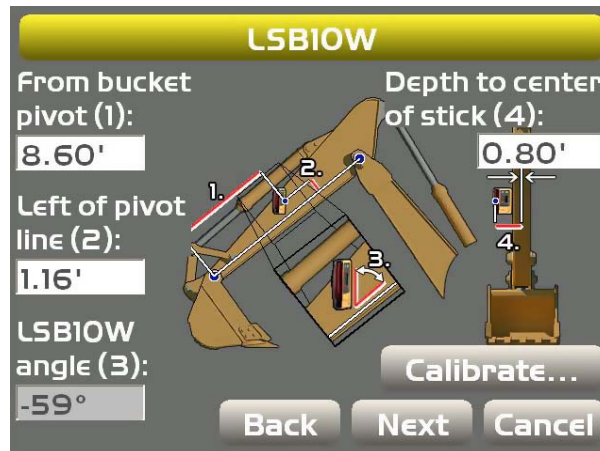

Figure 58: LS-B10W Laser Receiver Measurements
2. After assembling the bracket, clean the painted surface of the machine's stick in the area where the bracket will be mounted. Remove the backing from the double-sided tape and mount the bracket onto the stick orientation as shown in Figure 58 on page 43.
4. Enter the following measurements for the LS-B10W (Figure 58).
- **From bucket pivot** – enter the measurement for the distance from the along the projected line between the bucket pivot and stick pivot at the point where the LS-B10W is perpendicular to the projected line (Figure 58).
5. Make sure the LS-B10W Laser Receiver is vertical, and then tap **Calibrate** to determine the angle between the stick and the LS-B10W (Figure 58).